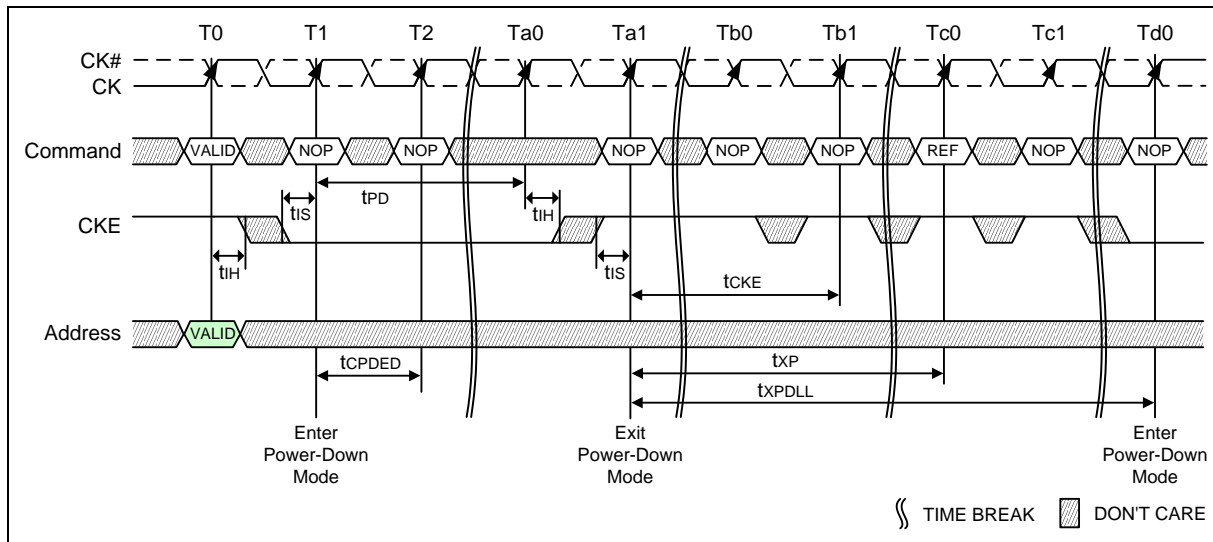

Figure 70 – Power-Down Entry/Exit Clarifications - Case 2
- 2) t_{XPDLL} must be satisfied (referenced to the registration of PD Exit) before the next power-down can be entered. A detailed example of Case 2 is shown in Figure 70.